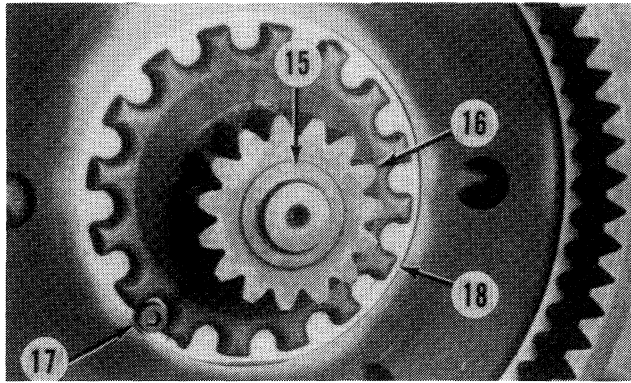
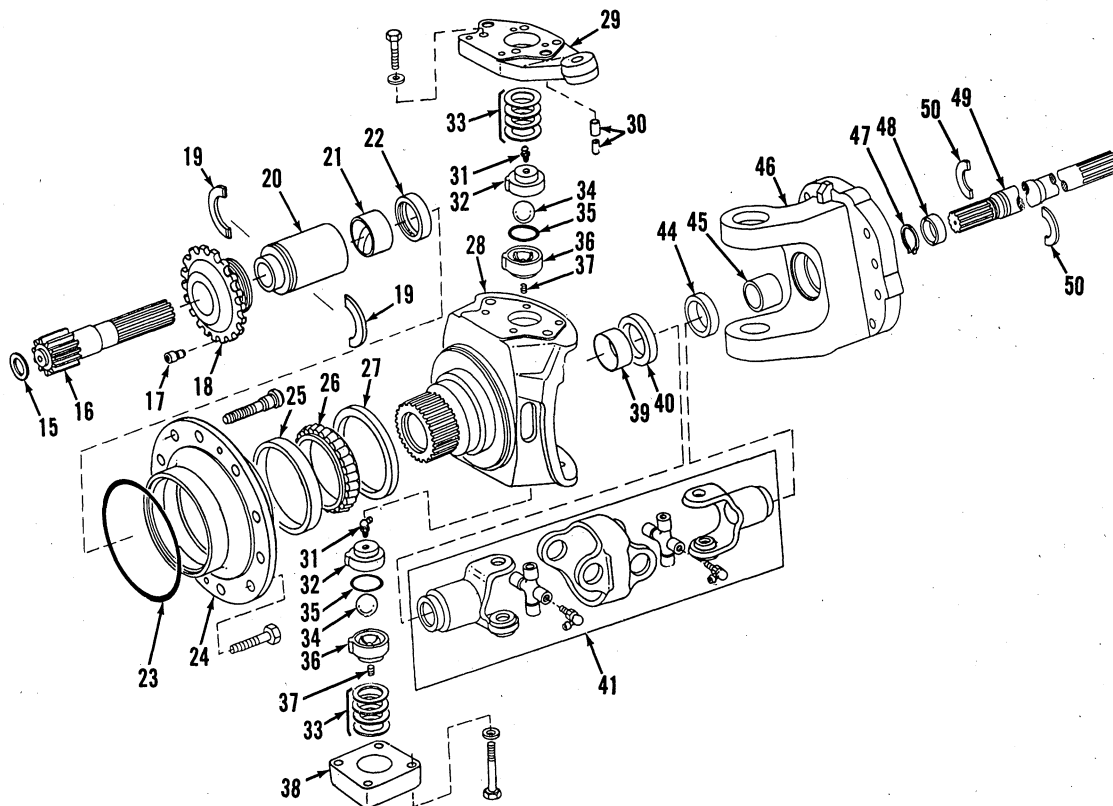

Fig. 274—View of planetary sun gear and ring gear hub retainer.
Fig. 275—Exploded view of front-wheel drive axle knuckle-spindle assembly.
253. R&R AND OVERHAUL. To remove wheel hub, first remove planetary carrier assembly as outlined in paragraph 252. Remove sun gear (16—Fig. 274) and Allen head screw (17). Support wheel hub, then unscrew retainer (18). Scribe alignment marks on knuckle-spindle and ring gear hub prior to removing ring gear hub. Withdraw wheel hub (24—Fig. 275) from knuckle-spindle (28) and remove oil seal and bearings from hub.
Clean and inspect all parts for wear or damage. To reassemble, apply light film of oil to lip of hub oil seal. Push hub oil seal (27—Fig. 275) by hand onto knuckle-spindle (28) until it is bottomed against shoulder of knuckle-spindle. Place wheel hub inner bearing cone (26) on the knuckle-spindle next to the hub oil seal. Assemble ring gear hub with outer bearing cone into wheel hub. Use a fabricated tool (T) as shown in Fig.
ring gear hub assembly with a hoist and position unit squarely onto knuckle-spindle, aligning match marks on knuckle-spindle and ring gear hub made prior to disassembly. Install ring gear retainer (18—Fig. 274) and tighten until gap (G—Fig. 276) between wheel hub and knuckle-spindle is 1/8 inch (3 mm).
Unbolt and remove steering arm (29—Fig. 275) and lower king pin cap (38). Remove shims (33), top and bottom inserts (32 and 36), pivot balls (34) and “O” rings (35). Separate knuckle-spindle (28) from king pin yoke (46). To separate axle shaft (49) from constant-velocity joint, open snap ring (47) and withdraw axle shaft and spacer (48). Remove planetary assembly and wheel hub from knuckle-spindle as outlined in paragraphs 252 and 253.
velocity joint into knuckle-spindle sleeve. Position pivot ball inserts (32 and 36—Fig. 275) in king pin yoke (46), then lower king pin yoke into knuckle-spindle while guiding constant-velocity joint into yoke seal and bushing. Install lower king pin ball (34) and insert (32) without “O” ring and shims. Install two cap screws diagonally in bottom king pin cap (38) and tighten securely. Install upper king pin ball (34) and insert (32) without “O” ring and shims. Install a fabricated retaining plate similar to one shown in Fig. 280 in place of steering arm and tighten two diagonal cap screws alternately to 66 ft.-lbs. (90 N·m). Measure distance from steering arm mounting surface to top of ball insert. This distance is total thickness of shims (33—Fig. 275) required. Divide shims into two equal thickness shim packs and install “O” rings and shim packs on upper and lower king pins. Tighten lower king pin cap retaining screws to 230 ft.-lbs. (310 N·m). Install steering arm (29) and drive spring pins (30) into knuckle-spindle until flush with top of steering arm. Tighten steering arm retaining cap screws to 230 ft.-lbs. (310 N·m). Lubricate upper and lower king pin balls with grease.